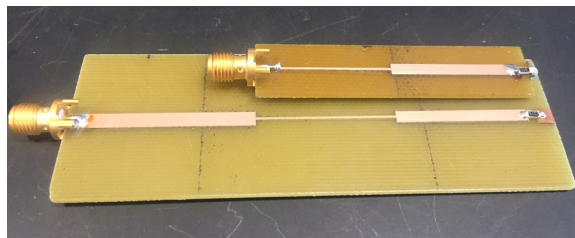

Figure 2: Embedded and non-embedded impedance transformer
You will practice port extension on the microstrip student unknown, which you are much familiar with by now; an impedance transformer embedded exactly the same way as the microstrip student unknown shown in Figure 2.
3. With the electrical delay added, you now can connect the DUTs and measure them. If it is the microstrip student unknown, make sure you have the same one you used last time. Save the data and compare it against your measurement in the previous Experiment. If it is the impedance transformer, you have the non-embedded one as shown in Figure 2 to compare with.